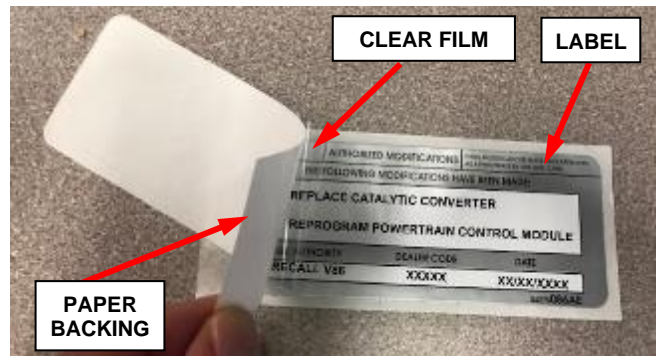

Figure 198 – Apply Clear Film
2. Remove the paper backing from the clear film on the front of the authorized modifications label then carefully apply the clear film over the front of the authorized modifications label (Figure 198).